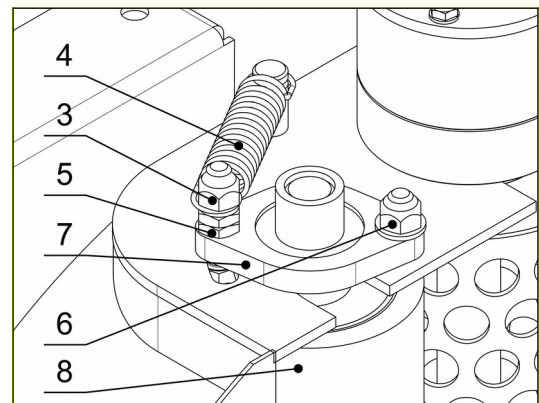

Fig. 54
3. Remove the nut (Fig. 54, No. 3) and remove the spring (Fig. 54, No. 4).
4. Mount back new spring (Fig. 54, No. 4) and secure it with a nut (Fig. 54, No. 3).